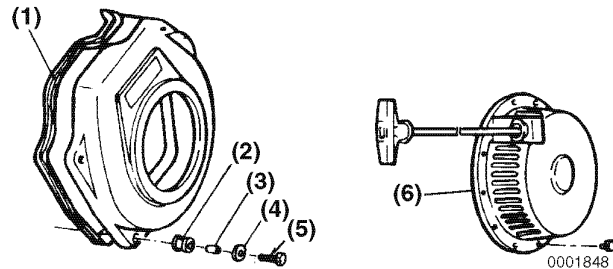

Figure 8-103
11. Attach the rubber seal (**Figure 8-103, (1)**) to the fan housing.
12. Install the fan housing rubber supports (**Figure 8-103, (2)**) and sleeves (**Figure 8-103, (3)**).
13. Install the cooling fan housing and secure with washers (**Figure 8-103, (4)**) and bolts (**Figure 8-103, (5)**). Install the recoil starter (**Figure 8-103, (6)**) if it has been removed.